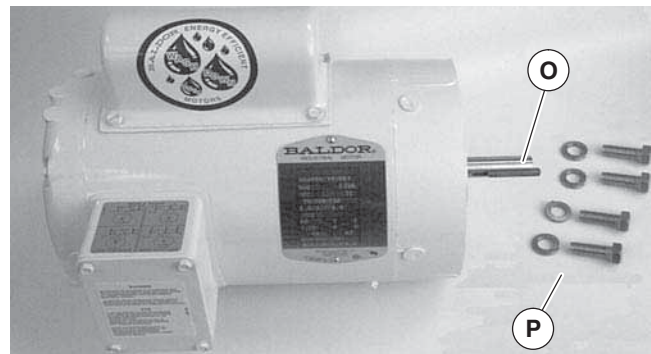

Figure 17
- Install key (Figure 17, item O).